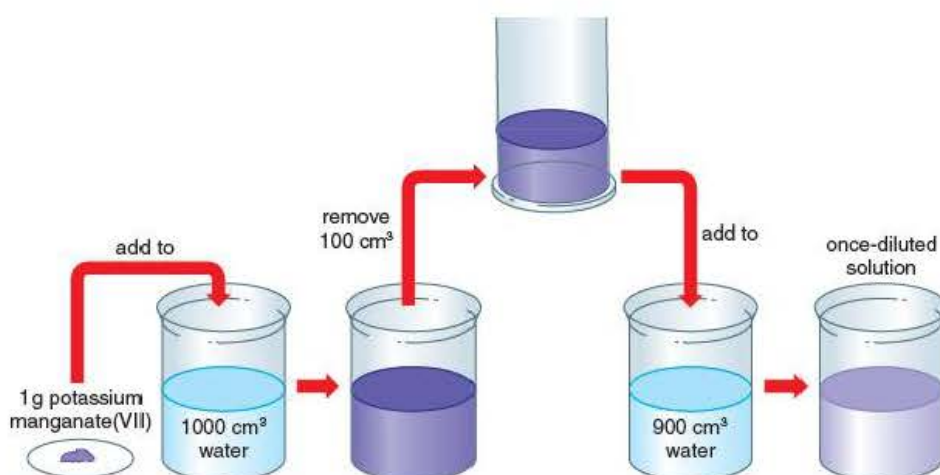

Figure 1.3 Estimating the size of particles in potassium manganate(VII). If you try this experiment, **wear eye protection**.
Figure 1.3 shows an experiment that will help to give you some idea about the size of particles.
- 3 Look back at Figure 1.3 and the experiment involved. Suppose that 1 g of potassium manganate(VII) has a volume of 1 cm^3 and that there is one particle of potassium manganate(VII) in every drop of the final $1\,000\,000\,000\text{ cm}^3$ of faint pink solution.